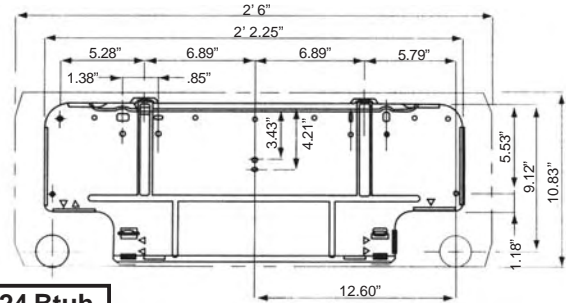

Fig. 1
2. Mount the installation plate horizontally and securely on structural members (studs, etc.) in the wall with four (4) installing screws. (See Fig. 1)